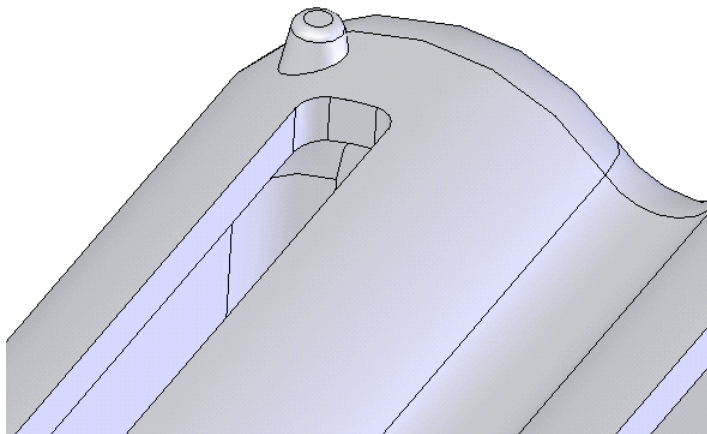

Figure 8-49 Rotated and zoom view of the model
- i. Create the standoffs of the soap case using the extrude and fillet tool and pattern the same, refer to Figure 8-49.
The rotated and zoom view of complete standoff is displayed in Figure 8-49.